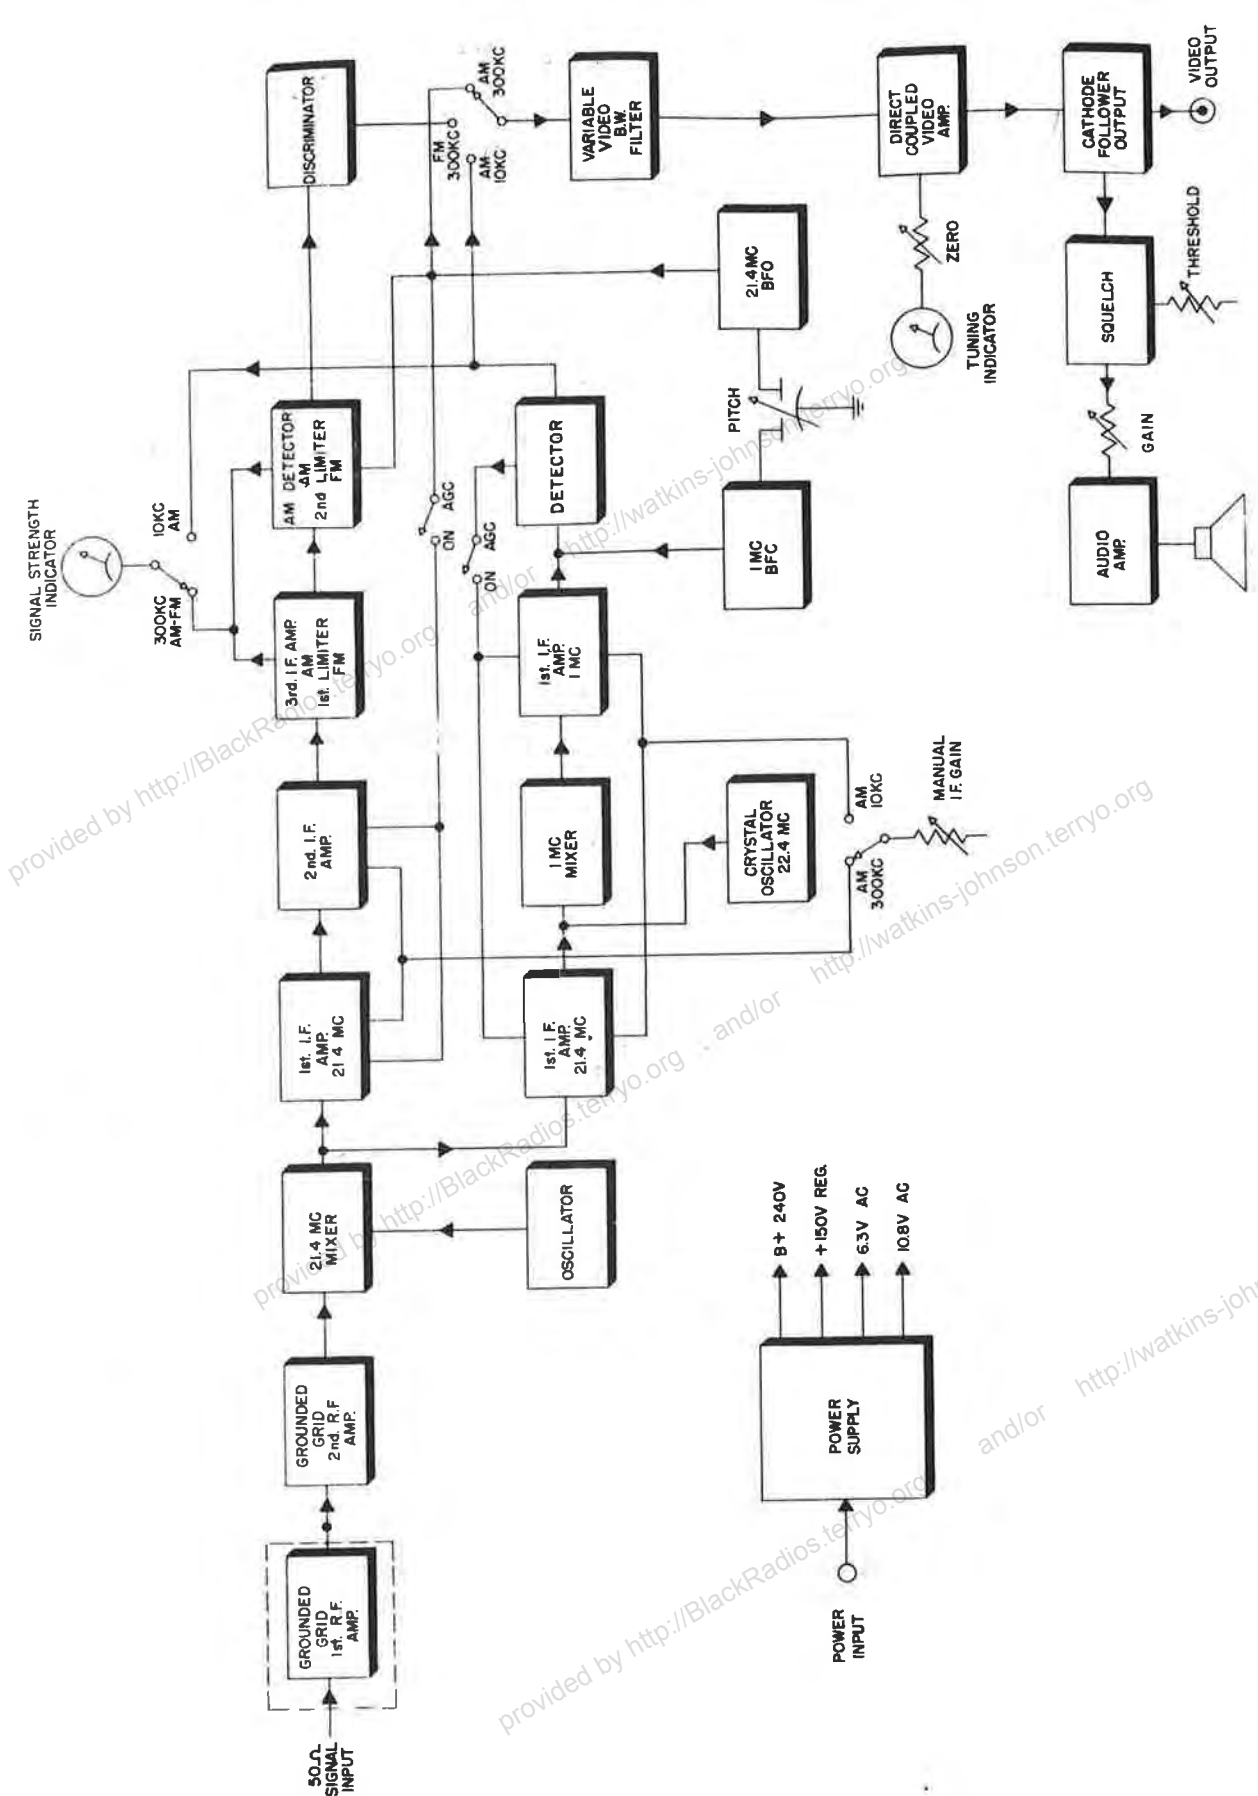

Figure 2-1. Block Diagram, 1302B Receiver
a. A block diagram of the 1302-B receiver is shown in Figure 2-1. The circuit, with the function switch in the AM 300 kc or FM position is a single superheterodyne with an IF of 21.4 mc. With the function switch in the AM 10 kc position, a dual-conversion circuit is used, with a 21.4 mc first IF, followed by a 1 mc second IF.